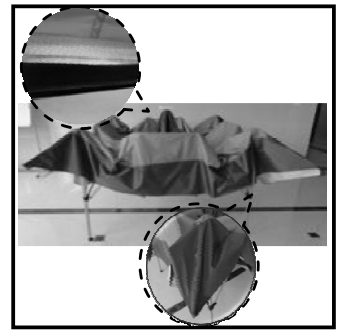

Fig. 5
- h) Place the canopy fabric over the partially opened frame. Align all four corners on the fabric to the tip of extendable awning bars. Assemble the vent cover to the canopy fabric by using the hook and loop straps attached. (see Fig. 5)